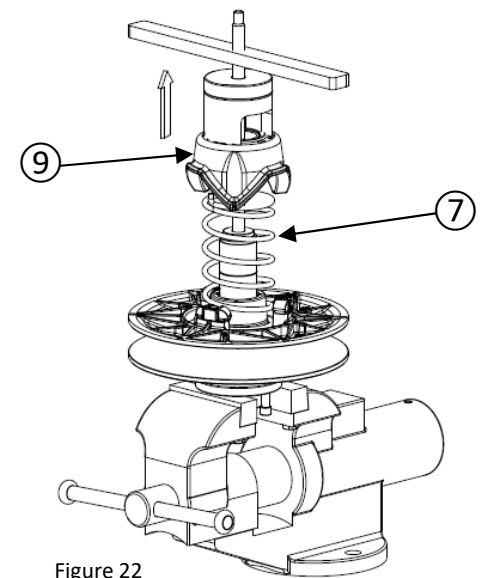

Figure 22
- Slowly unscrew the bar on the threaded rod to release the spring ⑦ tension (figure 22).
Never remove the bar from the disassembly tool until the cam ⑨ is in a free state (Figure 22)